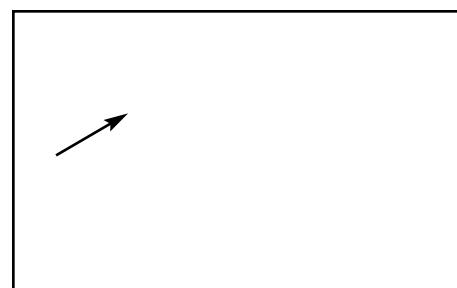

Figure 19
3. Insert storage strap below foot pump pedal. (See Figure 19.)